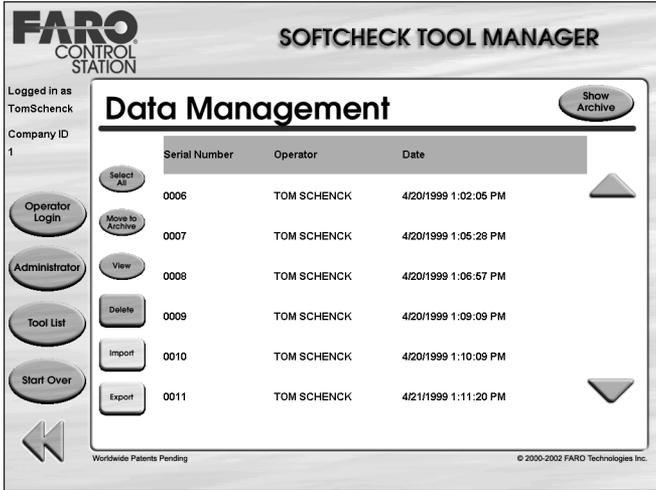

Figure 3-21 Individual Serial Numbers of a Part
- Touch the VIEW button to view the individual serial numbers of the parts. *See Figure 3-21, "Individual Serial Numbers of a Part."*